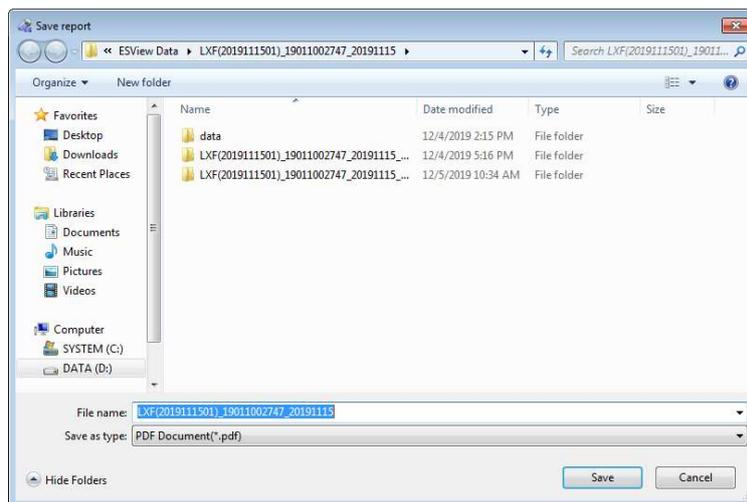
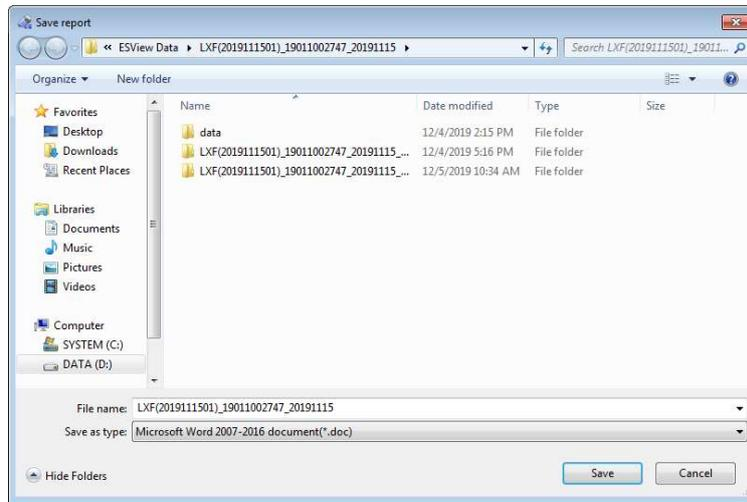
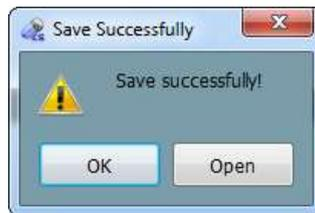

Figure 4-56: Save Report in .pdf Format
Figure 4-57: Save Report in .doc Format
Figure 4-58: Saving Success Dialog Box
- 7. In the report generation interface, click "Save report", choose a directory and click "Save" to save the case report (Figure 4-56). The software saves reports in *.pdf format by default. The user may also choose to save reports in *.doc format (Figure 4-57). After saving, a dialog box will appear to indicate saving success (Figure 4-58). Click "OK" to complete report saving or click "Open" to open the saved report.